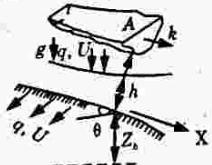

Fig. 1.6.1. Schematic drawing of spatially varied channel flow.
1. The channel under consideration as shown in Fig. 1.6.1 has no limitation on geometry of cross section or alignment.